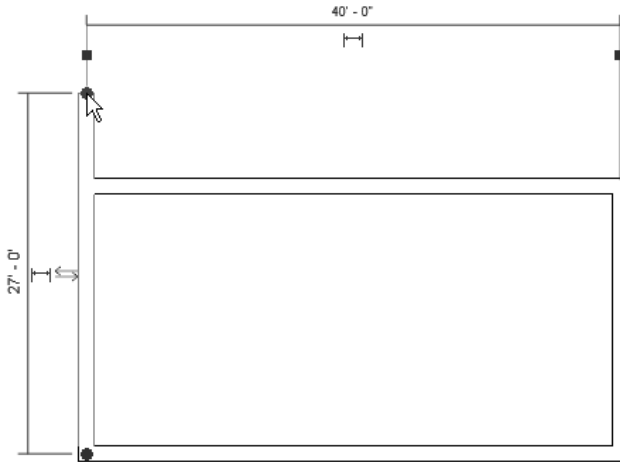

Figure 3-35 Using the drag control to modify the length of wall
1. Select the fourth wall segment to display its controls. The two blue dots at its two endpoints are the drag controls. Move the cursor near the upper dot; the color of the drag control symbol changes, as shown in Figure 3-35. Press and hold the left mouse button at this point and drag the cursor vertically downward and bring it close to the start point of the